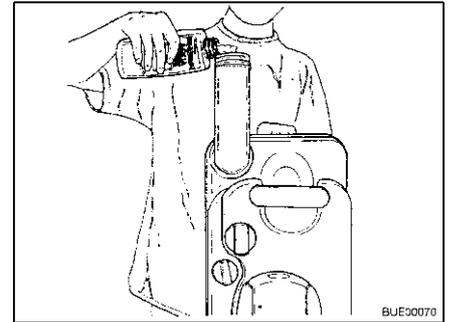

Fig. 154 Filling with sanitary liquid
- Fill the stated amount of sanitary liquid into the sewage tank (Fig. 154).